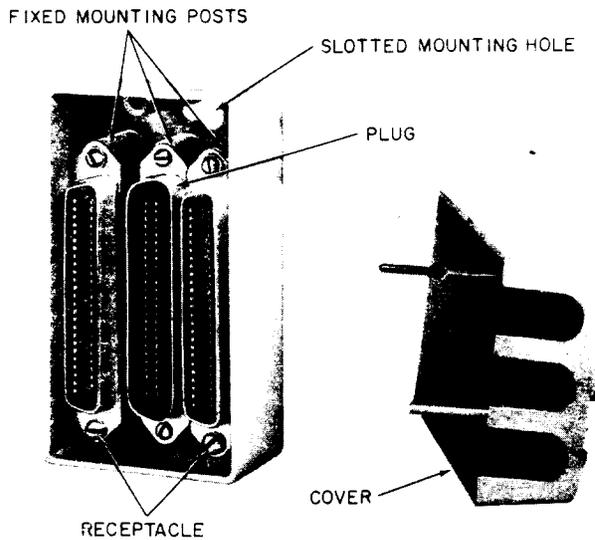
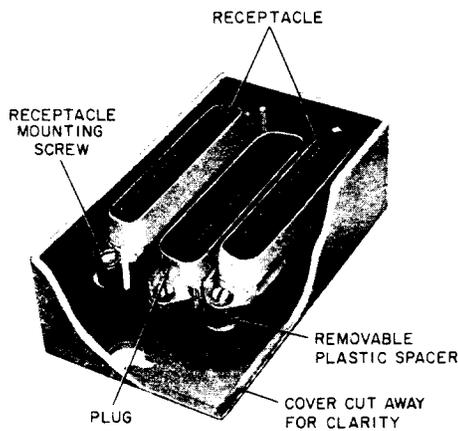
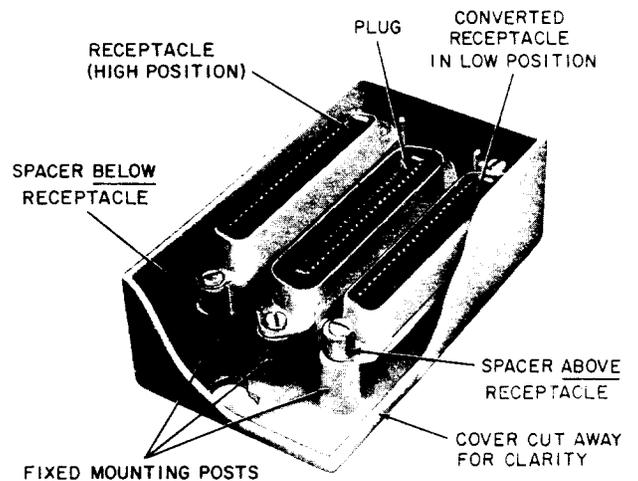

Fig. 17—KS-19252 Bridging Adapter, Nonconvertible
Fig. 18—KS-19252, List 1 Adapter Before Conversion (Early Model)
Fig. 20—KS-19252, List 1 Adapter After Conversion (Early Model)
2.58 The KS-19252, List 1 is arranged for use with an A25B connector cable and two plug-ended sets (Fig. 18). It can be converted for use with an A25B and B25A connector cable plus a plug-ended set by pulling two inserts and storing. Normally, in early models, the receptacles were positioned high enough to handle low-hood KS-16689, List 1 plugs furnished on cords of telephone sets (Fig. 17 and 18).
(1) Loosen receptacle mounting screws sufficiently to permit slipout of the two C-shaped plastic spacers (Fig. 18 and 19) which support the receptacle in base.
(2) Remove spacers. Receptacle can then be depressed to its lowest mounting position to receive the B25A connector cable plug.
(3) Place removed spacers on top of the receptacle end tabs (Fig. 20) and tighten receptacle mounting screws.